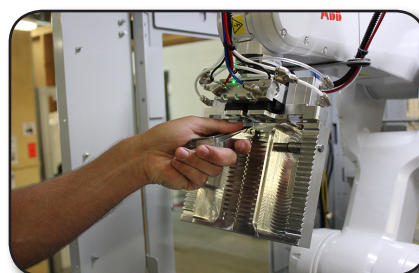

FIGURE 5. FEELER GAUGE TEST
- b. To ensure the sensor will activate when fully closed, clamp the 0.03" feeler gauge and check that the sensor is not illuminated (as shown in Figure 5). Secure in place by tightening the set screw with the screwdriver.